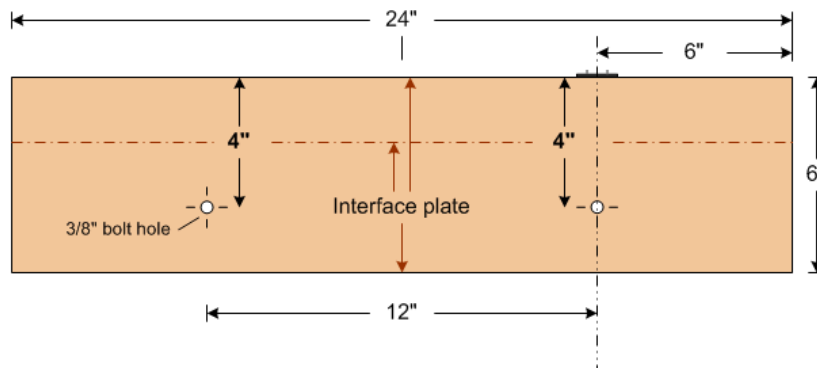

Figure 1
There are just a few key physical specifications used with our modules. As mentioned in the overview, the focus is on connectivity. The first of these specifications is for the module-to-module physical interface. The width of a module's interface is 24 inches with a height of 6 inches. The lower 4 inches is the portion of the interface responsible for the physical union between modules. This portion is the interface plate. Above the interface plate are scenic support materials (e.g. foam board, risers, plaster cloth, etc). The other key physical parameter is table height which is 48" above the floor. Figure 1 shows the design of the interface plate.
Mounting holes – Interface plate must have 3/8 inch holes placed as shown in figure 1. These holes are used with 2 inch by ¼ inch standard bolts to physically connect modules. 5/16 inch bolts and carriage bolts should not be used because they impair the adjustability between modules.
The modules utilize a single track at the interface. As can be seen in figure 1, the track is placed asymmetrically at the interface. This asymmetric design affords space for terrain and/or structures on the most basic straight-through rectangular modules. On more complex modules, this facilitates placement of passing sidings, spurs, yards, etc. The reference track products used for the modules are Peco's On30 flex track and turnouts. These products use code 100 rail and measure 3/16ths of an inch from the underside of the ties to the top of the rail. Using Peco products is not a requirement but adhering to the overall tie/rail height and code 100 rail between modules is needed to ensure smooth operation.
- Track centerline must be 6 inches in from one end of the interface (excluding fascia material, see Figure 1)